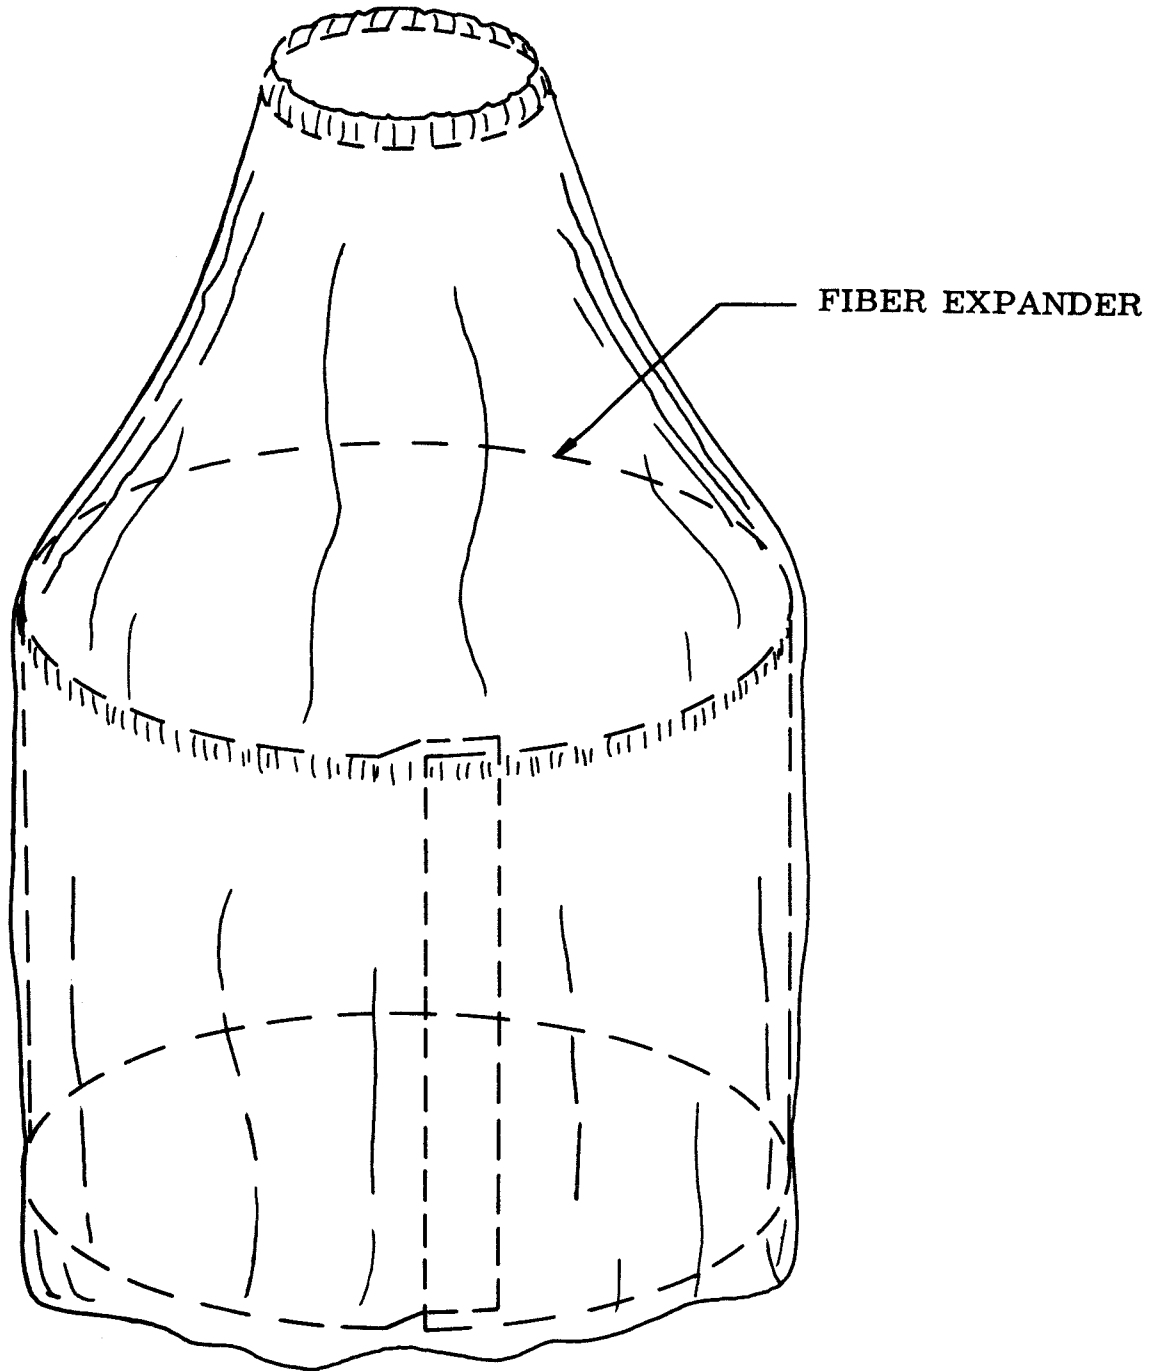

FIGURE 1
d. Chad Disposal (Figure 1)
(1) The chad disposal bag has a capacity sufficient to accept the chad from a complete perforated 1000 foot roll of tape. It is important however, that the bag be emptied each time a new roll of tape is installed.
(2) The chad bag may not be equipped with an expander. The expander should be inserted in the bag to create a cylinder shape in the lower portion. It is suggested that the overlapping ends of the expander sheet be stapled together, through the bag.
(3) Chad may accumulate on the bottom of the chad tube. This will not impare the operation of the set providing the chad bag is correctly installed and emptied at proper intervals.